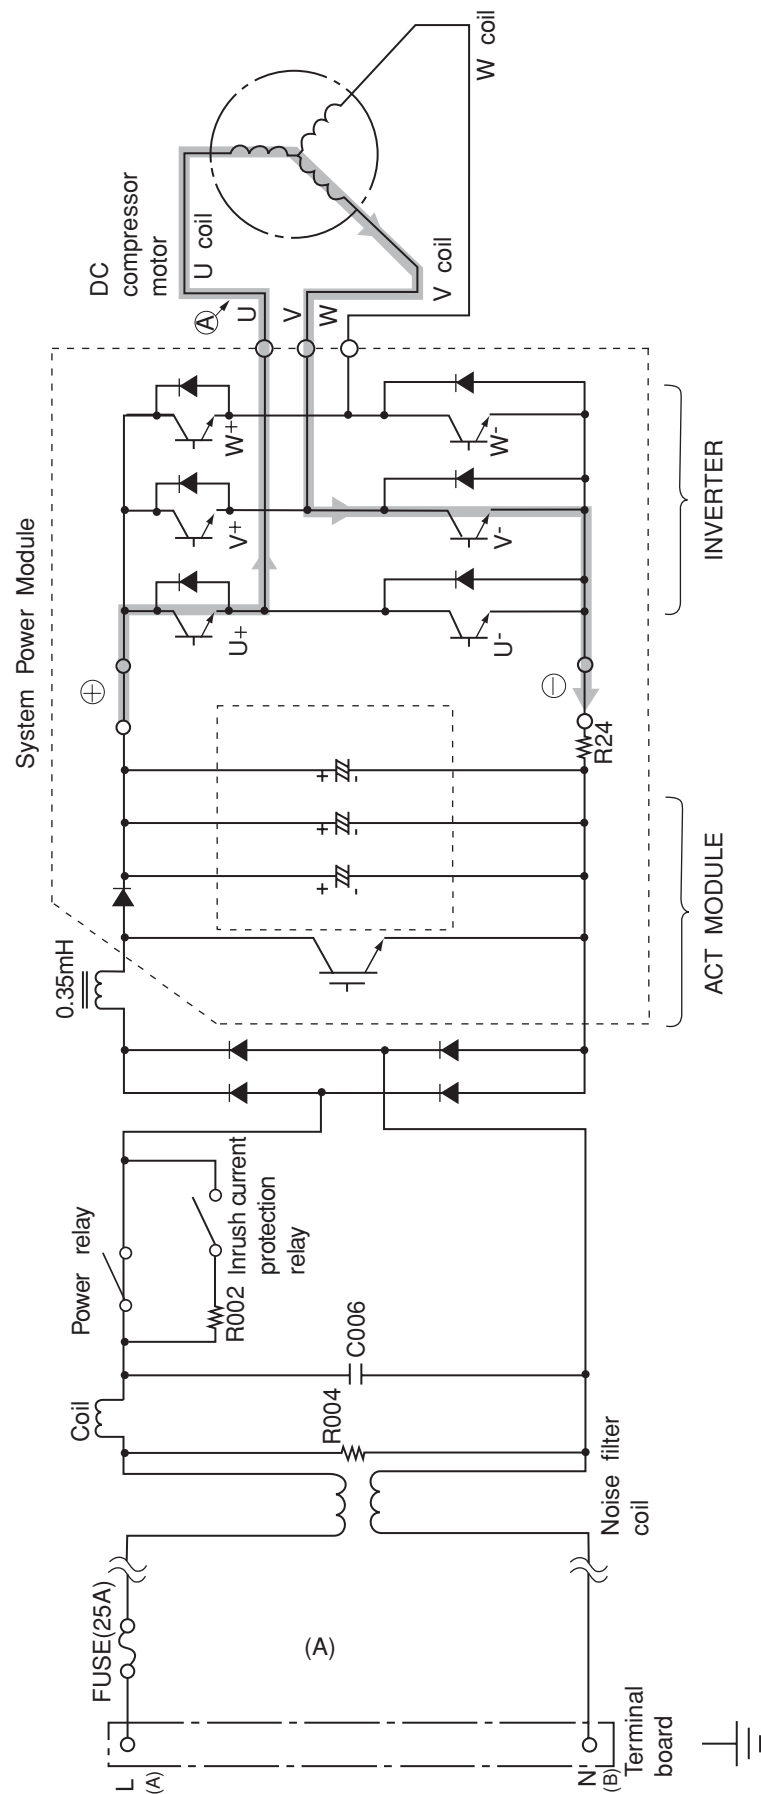
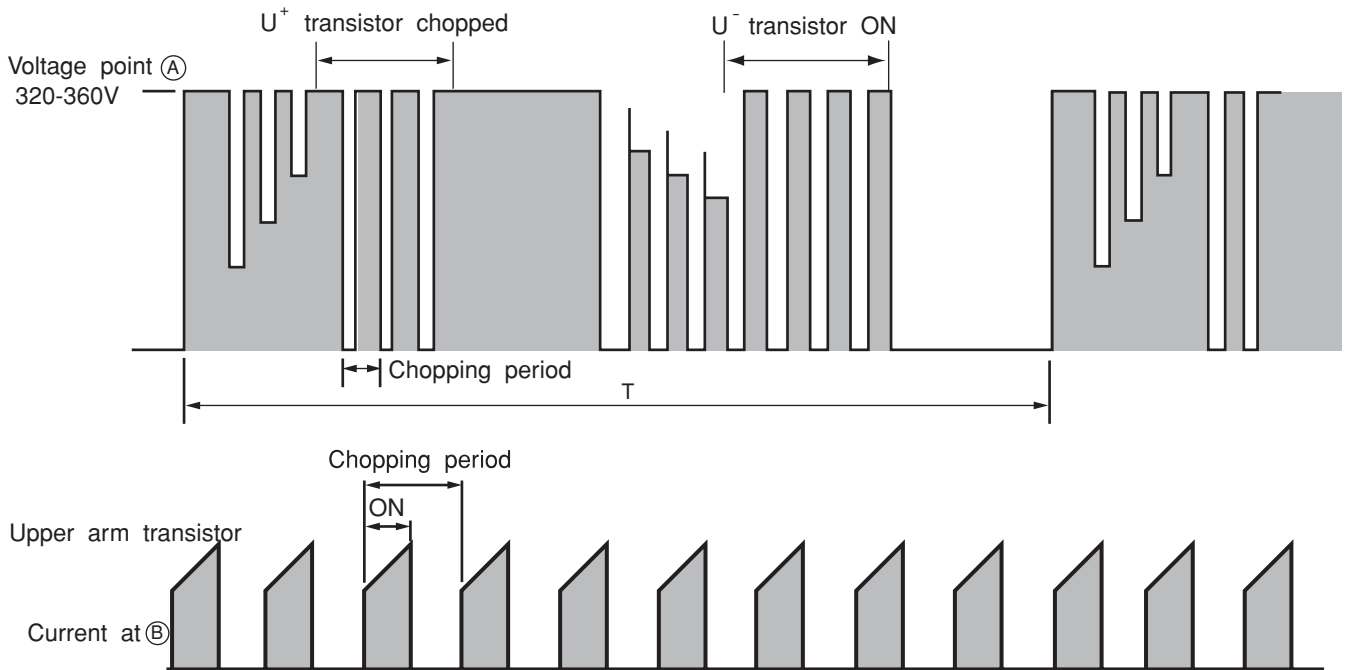

Fig. 3-1 System power module circuit (U⁺ is ON, V⁻ is ON)
Fig. 3-3 Voltage waveform at each point
- Fig. 3-1 shows the system power module and its peripheral circuits. (Current ACT module and power module are combined into one unit.) The three transistors on the positive ⊕ side are called the upper arm, and the three transistors on the negative ⊖ side, the lower arm.
※ At point E: U⁺ is ON, V⁻ is ON (circuit in Fig. 3-1)
- Fig. 3-3 shows voltage / current waveform at each point shown in Figs. 3-1 and 3-4. First half of upper arm is chopper, second half is ON, and first half of lower arm is chopper, second half is ON.
- (1) When U⁺ transistor is ON: U⁺ transistor → U coil → V coil → V⁻ transistor → DC current detection resistor → Point ㊸ (Fig. 3-1)
- Since current flows at point ⓑ only when U⁺ transistor and V⁻ transistor is ON, the current waveform at point ⓑ becomes intermittent waveform as shown in Fig. 3-3. Since current at point ⓑ is approximately proportional to the input current of the air conditioner, input current is controlled by using DC current (Id) detection resistor.